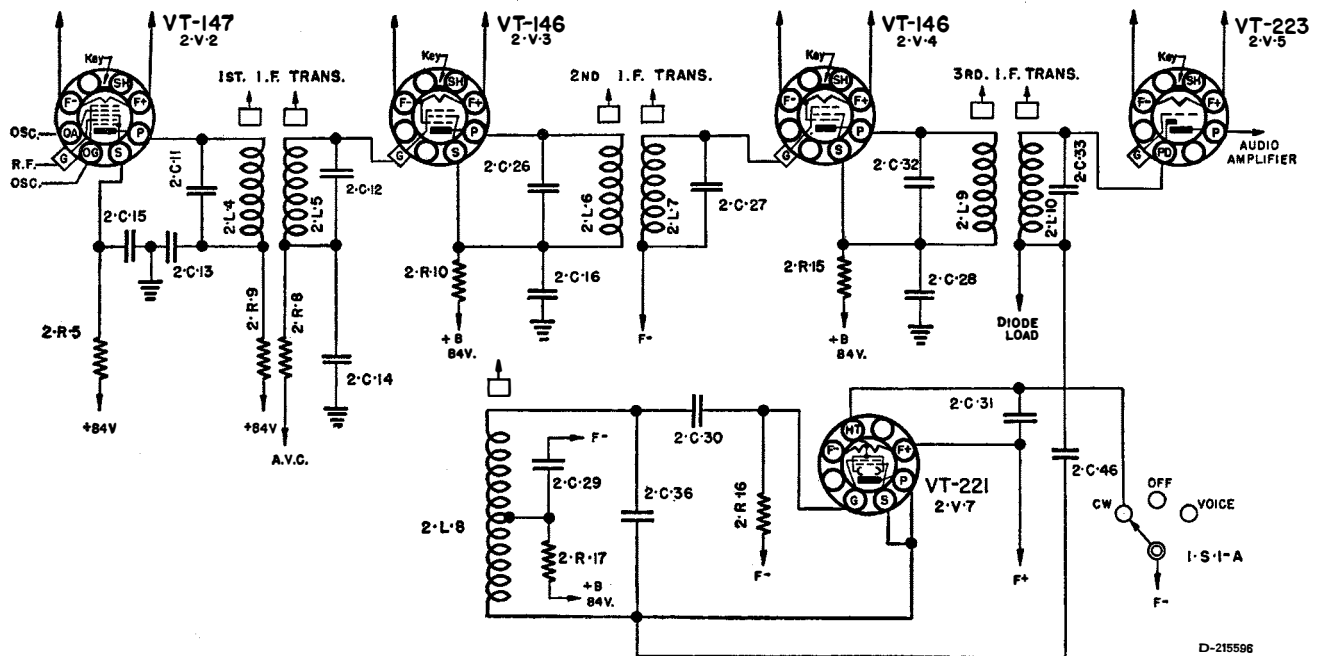

FIG. 11. INTERMEDIATE AND BEAT FREQUENCY OSCILLATOR CIRCUIT
b. Intermediate and Beat Frequency Oscillator Circuits: (FIG. 11)
- (1) The i-f amplifier consists of a two stage amplifier using two Tubes VT-146 (2-V-3 and 2-V-4), and three transformers (No. 1: 2-L-4 and 2-L-5, No. 2: 2-L-6 and 2-L-7, No. 3: 2-L-9 and 2-L-10) with permeability tuned primaries and secondaries. Each transformer together with the 270 μf capacitors across primary and secondary, is mounted in an aluminum shield.
- (2) The beat frequency oscillator uses a separate Tube, VT-221 (2-V-7), and oscillates at a fixed frequency of 455 kc.